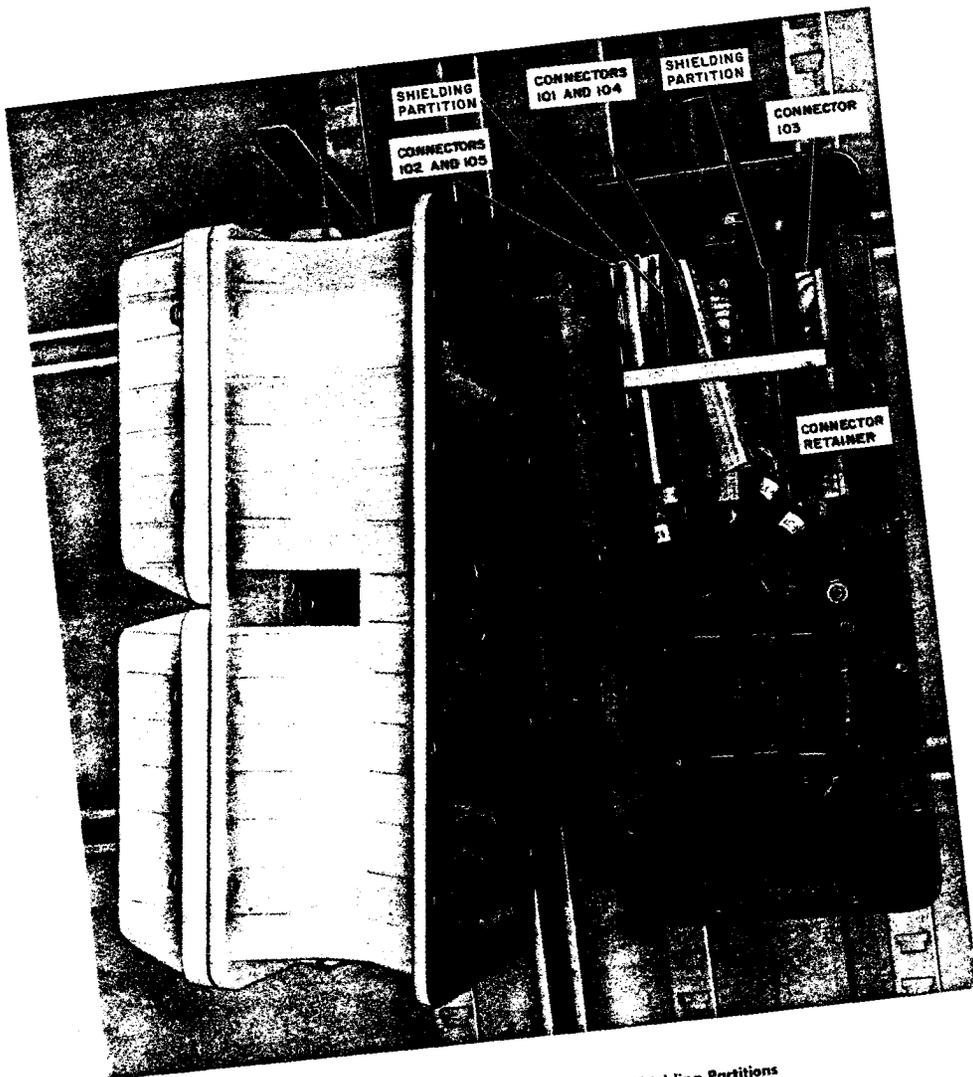

Fig. 34—Connector Placement Between Shielding Partitions
**6.04** Position the connectors between the shielding partitions and install connector retainer as shown in Fig. 34. This connector placement is *important* to minimize crosstalk effects in the base.